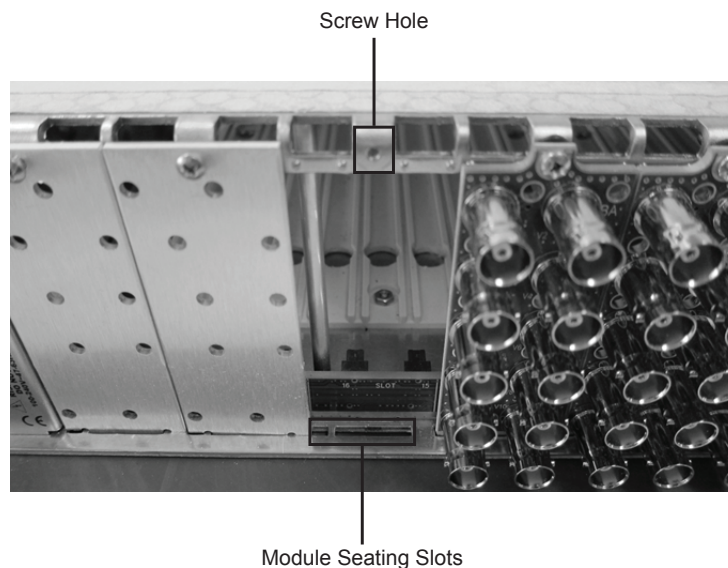

Figure 2.1 Rear Module Installation in a DFR-8300 Series Frame (ADC-8434-A not shown)
3. Install the bottom of the Rear Module in the **Module Seating Slot** at the base of the frame’s back plane. **Figure 2.1**